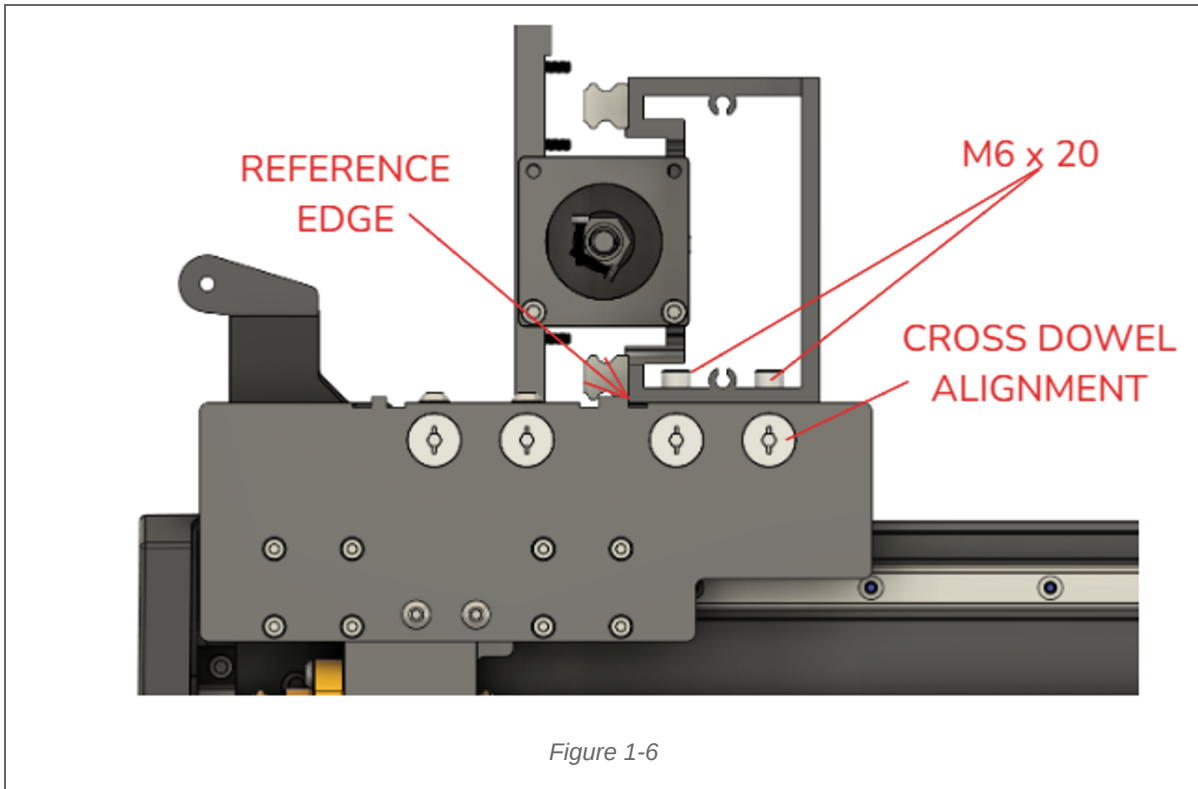

Figure 1-6
4. From the right side of the machine, push the gantry toward the front of the machine until it engages with the reference edge on the top of the Y-Right carriage plate. See Fig. 1-6.
5. Orient the **Cross Dowels** so that the reference line on the face of each is vertical. See Fig. 1-6.